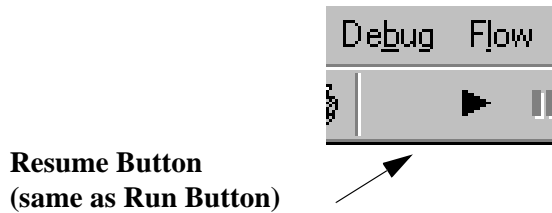

Figure 2-24. Resume Program (same as the Run Button)
3. Resume the program to continue and pause at the next object with a breakpoint set. Click the **Resume** button on the tool bar, shown in Figure 2-24. (Also in the `Debug` menu.)